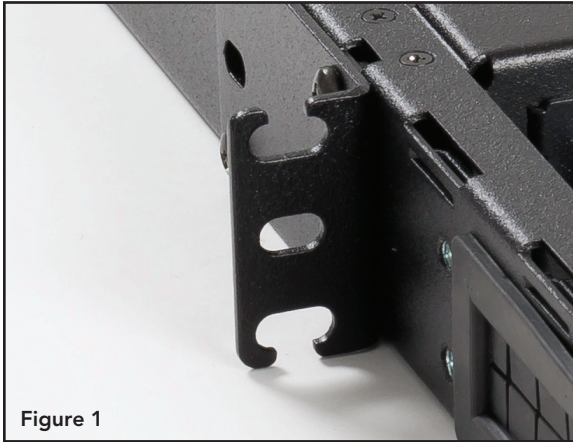

Figure 1
- 6.1 Affix the rack mounting brackets to the fiber enclosure using the enclosed #10-32 x 5/16" screws. The brackets are designed to be utilized to mount the fiber enclosure to a 19" or 23" equipment rack or cabinet. If mounting to a 19" equipment rack or cabinet, the long side of the brackets are affixed to the side of the enclosure. If mounting to a 23" equipment rack or cabinet, the short side of the bracket is affixed to the side of the enclosure. See Figure 1.